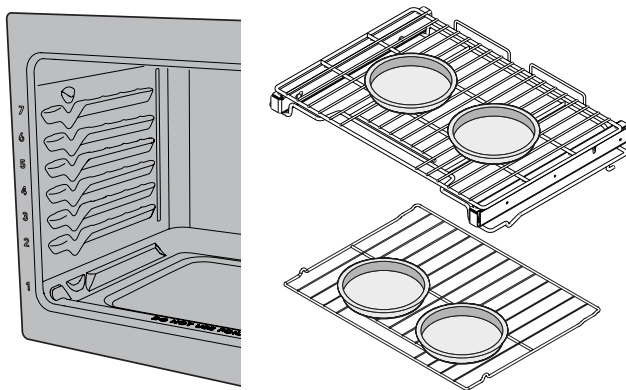

Figure 12: Pan positions for best results when baking cakes on two racks.
- For baking cakes use the following rack positions and place bakeware as shown in Figure 12. In upper rack use position 5 (glide) or 6 (flat).